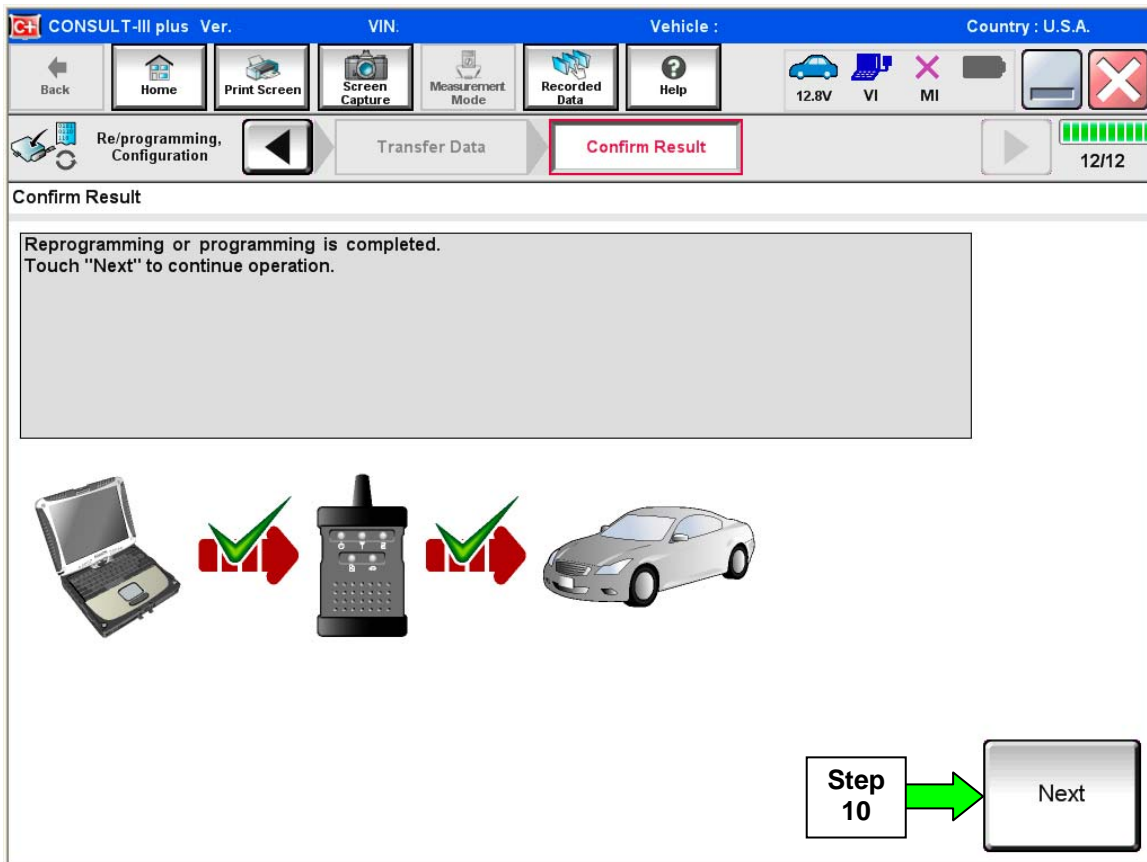

Figure 4
8. When the screen in Figure 4 displays, reprogramming is complete.